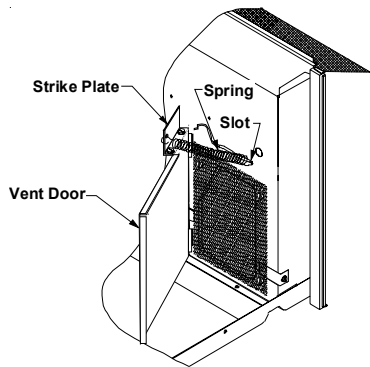

Figure 3
3. Open the vent door with the vent door lever located on the left side of the chassis. Remove the screen filter by removing three screws (Figure 3).